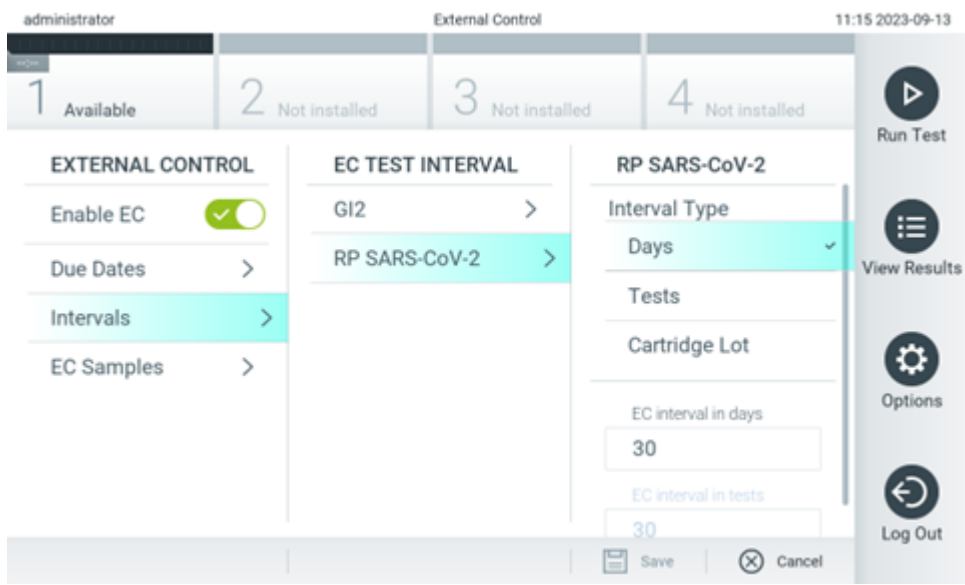

Figure 78. External Control Intervals screen.
- Press **Intervals**, then select an assay from the **EC TEST INTERVAL** list to configure the interval after. A reminder is displayed to remind users that an External Control test needs to be performed for the selected assay if the interval has passed (Figure 78).